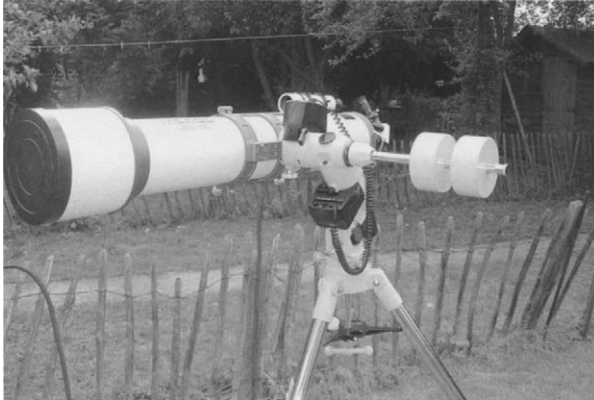

Figure 4.8. OTA with counterweight shaft horizontal with the ground.
3. Orientate the OTA, so that it is horizontal in parallel with the ground as shown in Figure 4.8.